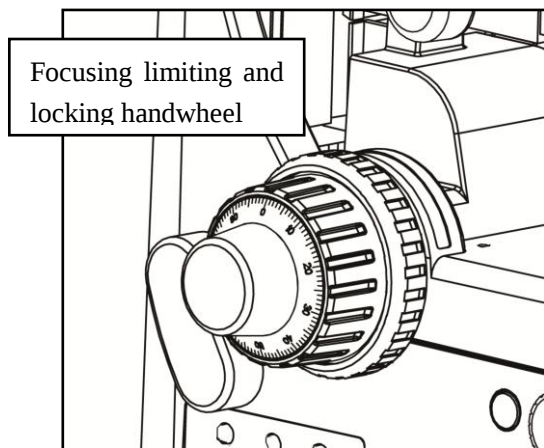

Fig 10
3.9 The Limit Of Focusing (fig 10)